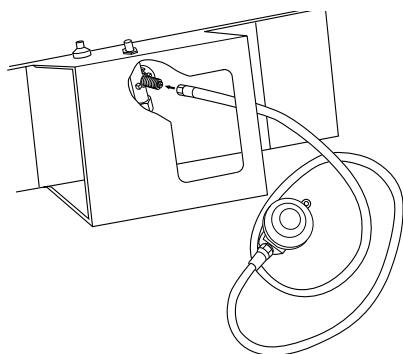

Figure 7 - Hose and Inlet Connector
3. Connect hose to valve inlet (see Figure 7). Tighten firmly using a wrench.